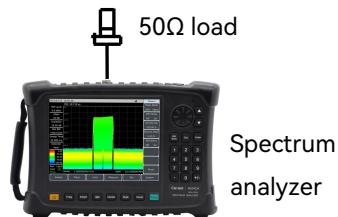

Figure 12- 10 Settings for the test of displayed average noise level
1) Connect the 50Ω load to the RF input port of the spectrum analyzer according to Figure 12- 10;